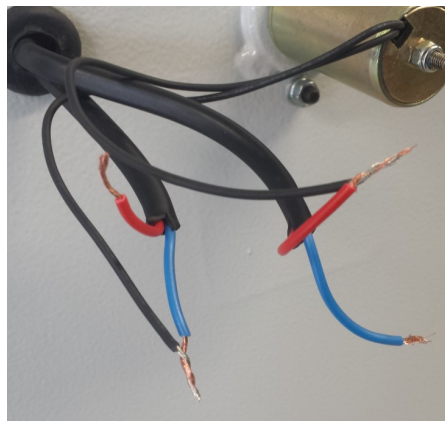
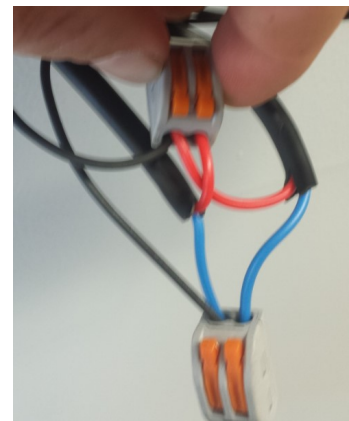

Fig.11b
Fig.11c
- Now connect the wires to the safety lock, connect one red wire to a black wire coming out of the safety lock by twisting them, do the same with one of the blue wires (fig.11b), now connect all wires using the wire spring quick connector clamps (fig.11c).